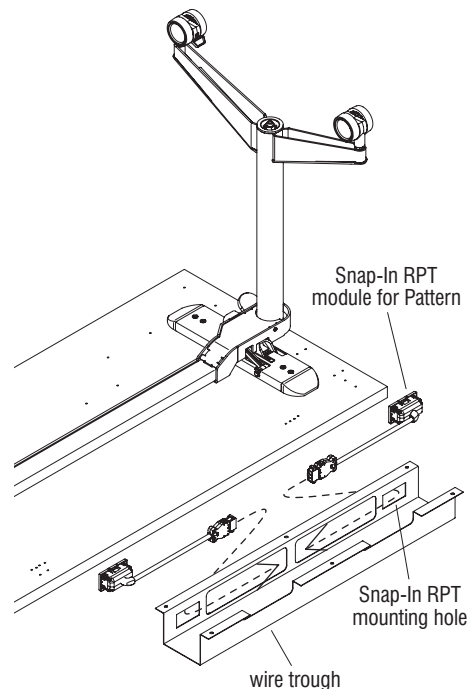

Figure 3
1. If the tables being assembled require Snap-In RPT modules for Pattern, first route the connector end of each module in through the rectangular-shaped module mounting holes on the wire trough as illustrated, routing the connector ends toward the middle of the trough, then snap the module receptacles into position. Repeat step 1 to install Snap-In RPT modules to the remaining wire troughs of each table (Figure 3).